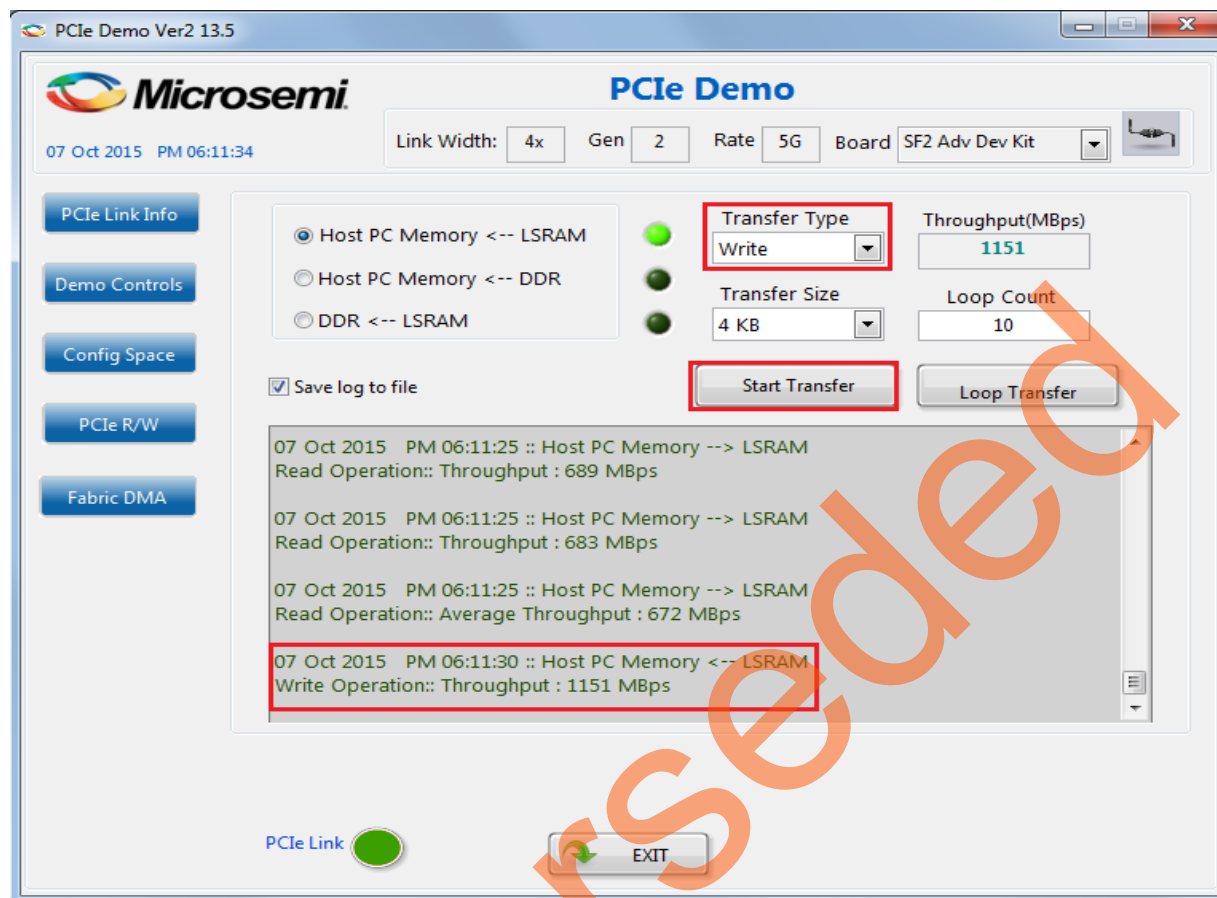

Figure 28 • DMA between Host PC Memory and LSRAM
18. Select **Transfer Type** as **Write** and then select **Host PC Memory < - - LSRAM** to execute DMA transactions from LSRAM to Host PC. Click **Start Transfer** to perform a single DMA transaction. After completion of data transfer the throughput is displayed as shown in Figure 28 on page 36.